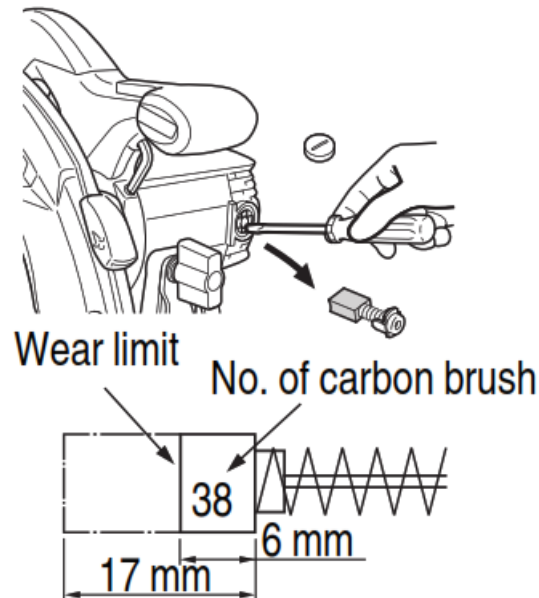

Fig. 16
3. Inspecting the carbon brushes (Fig. 16) The motor employs carbon brushes which are consumable parts. Since an excessively worn carbon brush can result in motor trouble, replace the carbon brushes with new ones having the same carbon brush No. shown in the fi gure when it becomes worn to or near the “wear limit”. In